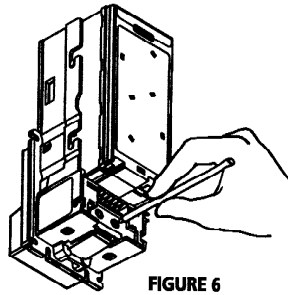

FIGURE 6
**3. Locate the service button** on the back of the unit (refer to Figure 6). Depress the button once to enter coupon setup mode. Depressing again will exit the mode.